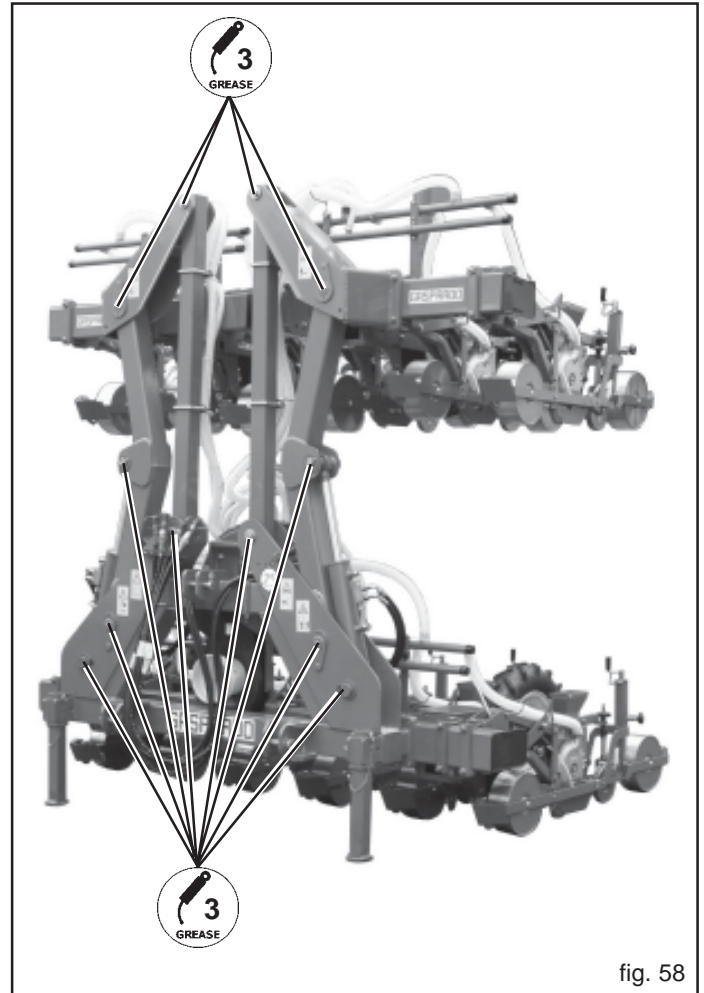

fig. 58
- Grease the row-marker arm pin (2, Fig. 58).
- Grease the joints of the frame (3, Fig. 58).